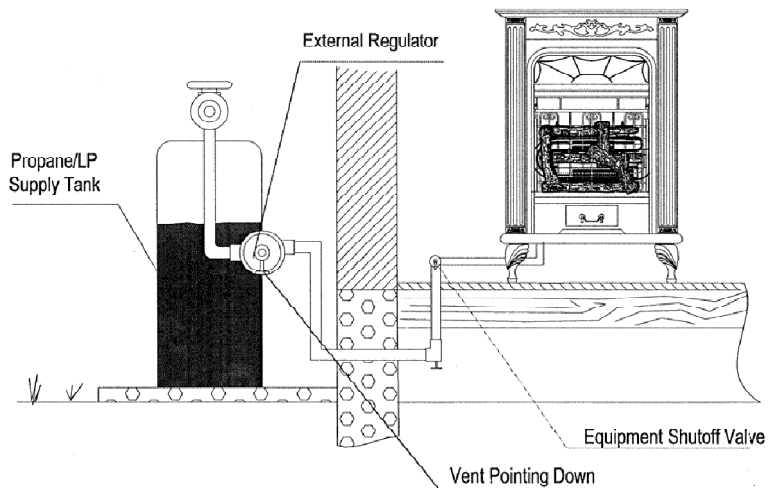

Figure 9 -Checking Gas Joints
4. Check all joints from equipment shutoff valve to control valve (see Figure 9). Apply mixture of liquid soap and water to gas joints. Bubbles forming show a leak.
3. Check all joints from gas meter to equipment shutoff valve (see Figure 9). Apply mixture of liquid soap and water to gas joints. Bubbles forming show a leak.